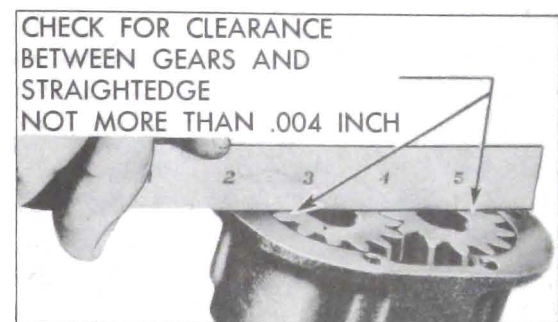

Figure 2-42—Checking Clearance of Gears at Cover
7. Check for clearance between gears and cover by using a steel straight edge as shown in figure 2-42. The clearance between straight edge and gears should be such that the gears turn freely and must not be more than .004".